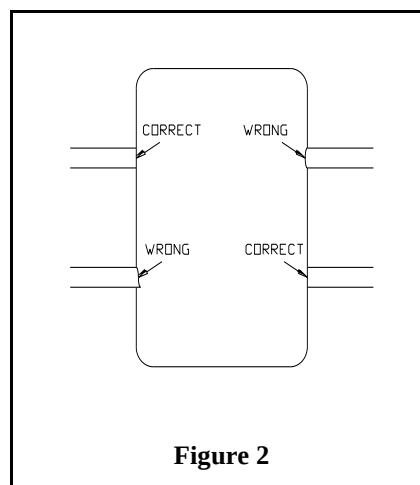

Figure 2
3. Make certain belt rails do not protrude into the rough opening in any way. (See Figure 2)